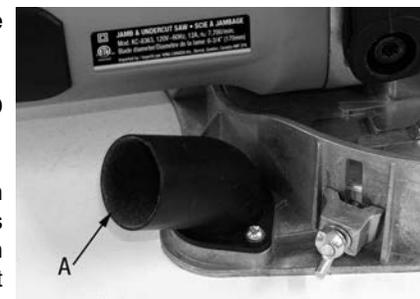

FIGURE 6
It is strongly recommended to connect a vacuum with a 1-1/4" hose to the dust fitting (A) Fig.6. This will reduce airborne dust and will require less clean up. If you do not connect a vacuum to the dust fitting, make sure to place the dust cap of the dust fitting during operations.